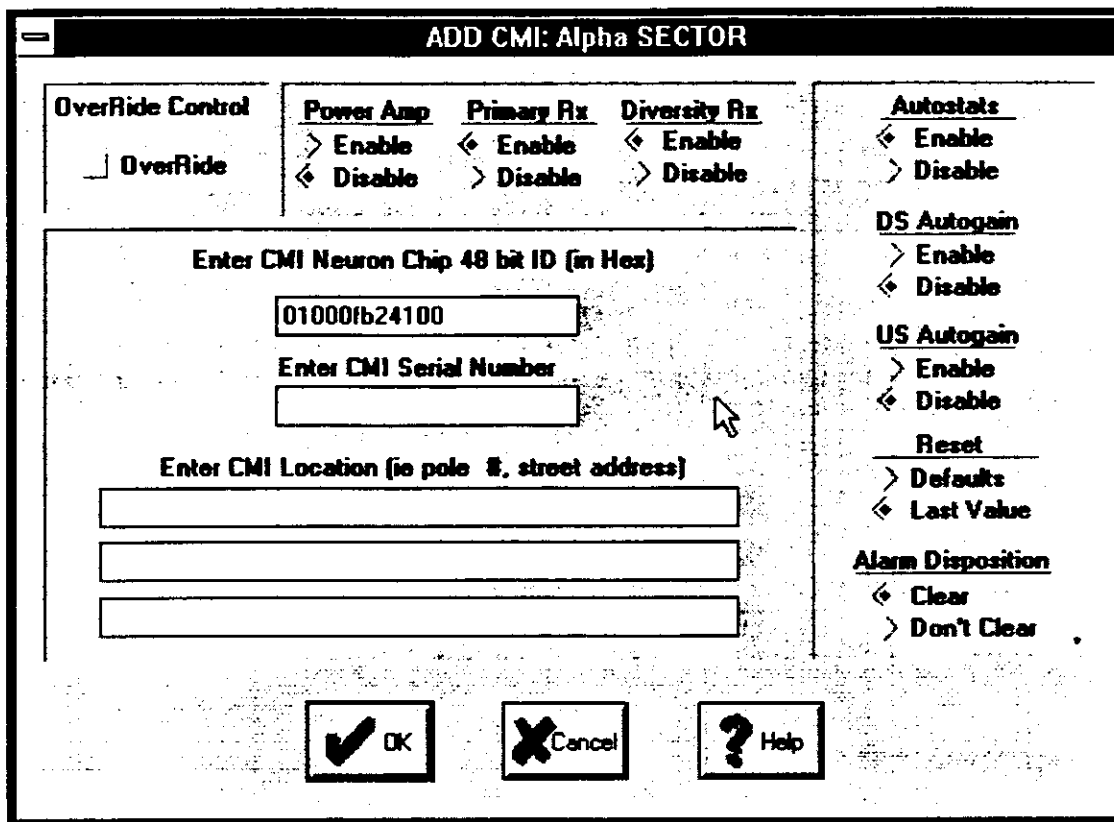

Figure 3-18. Typical ADD CMI Dialog
- f. Observe that the ADD CMI dialog (Figure 3-18) appears.